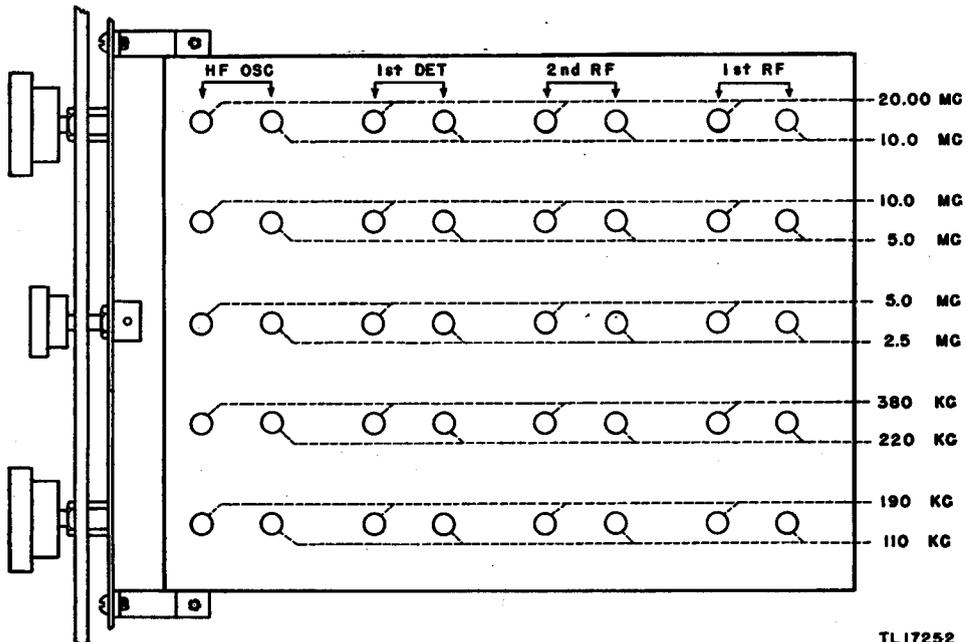

Figure 17. Alignment controls, Radio Receiver BC-779-B.
*e.* **HIGH-FREQUENCY OSCILLATOR CALIBRATION CHECK.** The accuracy of the MAIN DIAL calibration depends solely on the h-f oscillator frequency which, on all bands of the basic receivers except the 20- to 40-megacycle (mc) band of receiver BC-794-B, is 465 kc (the i-f) higher than the signal frequency. In the BC-794-B the h-f oscillator is 465 kc below the signal frequency on the 20- to 40-mc band. To check calibration, tune in signals of known frequency on each band and note the MAIN DIAL reading. If it does not agree with the known frequency of the signal being received, the calibration is off. To correct dial calibration, see figures 17, 18, and 19 for location of h-f oscillator adjustments as well as the signal frequencies at which adjustments should be made. The signal generator may be set for the lower end of the band, and its second harmonic, if strong enough, may be used at the upper end. The output of the signal generator should be unmodulated and the SIGNAL-MOD-CW switch on the receiver should be set at CW, the BEAT OSCILLATOR control at zero, and the BAND WIDTH at 16. Disconnect output meter and use headphones or a loudspeaker to make the necessary adjustments by the zero beat method. The signal generator is to be connected to the antenna terminals for this test. If this test is made, for example, on the 2.5- to 5.0-mc band and the signal generator is tuned for 2.5 megacycles, the second harmonic is used at the 5.0-mc end of the band. Tune the second harmonic at the 5.0-mc end of the dial to zero beat. If the dial is off the 5.0-mc calibration line, turn the dial toward the correct setting just enough to set up a high pitched tone, but not enough to go above audibility. With the alignment screw driver, adjust the trimmer capacitor marked h-f oscillator (5.0-mc) until the beat is returned to zero. Repeat this until the dial has been returned to a correct reading and zero beat. After aligning the 5.0-mc end of the band, tune the 2.5-mc fundamental at the low-frequency end of the main dial, and correct the calibration step-by-step as before, using the inductance trimming adjustment h-f oscillator (2.5 mc). The second harmonic will now be found out of line again, when tuned, since the adjustment at one end of the band affects the other end of the band. A back-
*f.* **R-F AND FIRST DETECTOR ALIGNMENT.** Accurate calibration and modulation of the signal generator is not required to check these adjustments. The input to the antenna terminals should be through approximately 100 ohms, including the output resistance of the signal generator. If the signal generator is modulated, the receiver controls should be set as for i-f alignment; if unmodulated, set BEAT OSCILLATOR knob to 2 (on either side) and SIGNAL-MOD-CW switch to CW. Adjust SENSITIVITY to produce a half-scale reading on the output meter when the signals are exactly in tune. Starting with the 2.5- to 5.0-mc band, set the main dial at 5.0 megacycles with band spread dial at 100, and adjust the frequency of the signal generator to peak deflection of the output meter. Check the setting of the trimmer marked first detector and 5.0 megacycles. (See figures 17, 18, or 19.) Repeat this procedure on trimmers indicated as 2d RF and 1st RF in the same row. If readjustment of the settings results in an increase in output meter reading, alter the SENSITIVITY control to reduce the reading to half scale. Check the tuning of the receiver after each adjustment to see that the test signal is accurately tuned. The band spread control may be used as a vernier for this purpose on the bands in which it operates.